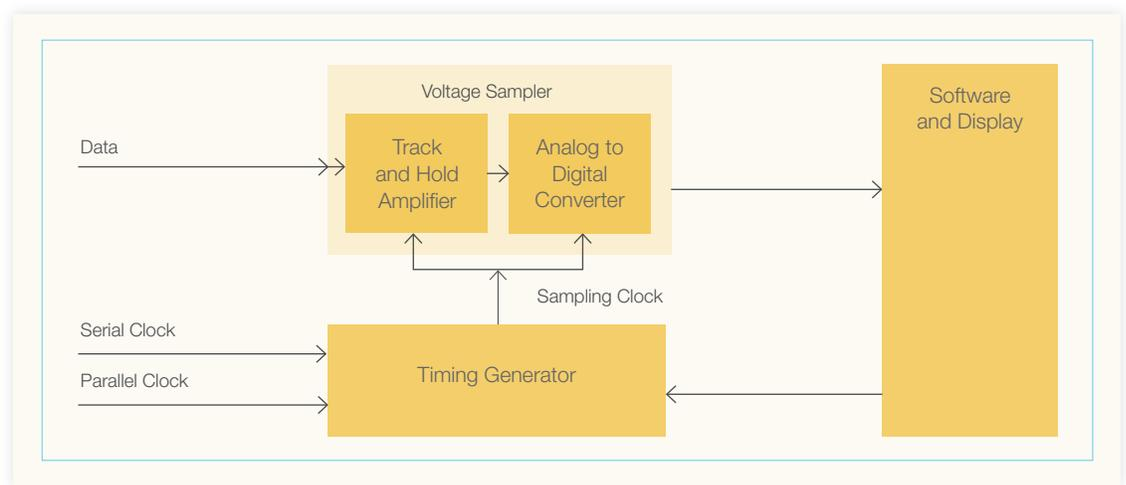

Fig 4.1. Key Building Blocks of a Digital Communication Analyzer
**4. Basics of Digital Eye Analyzer:** A digital eye analyzer is a digital sampling oscilloscope, e.g. Agilent 86100, Tek DSA8200. Using a digital sampling scope, the eye analysis can be performed irrespective of the sampling rate. Most digital sampling scopes sample the incoming eye at less than 10 MHz while the serial data rate can be as high as 40 Gb/s. Parameters such as jitter, rise/fall time, amplitude, extinction ratio, etc. can be measured accurately without sampling at serial clock speed. A high level block diagram of an oscilloscope is shown in Fig 4.1. There are three key building blocks: A voltage sampler, timing generator and software for display.